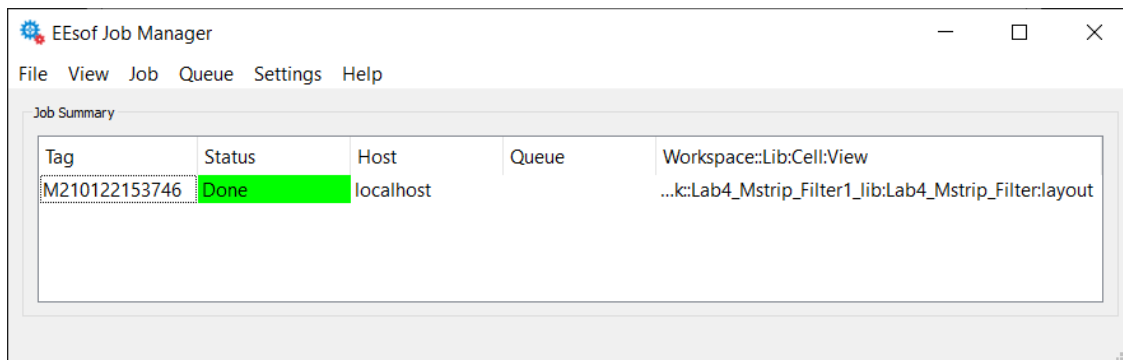
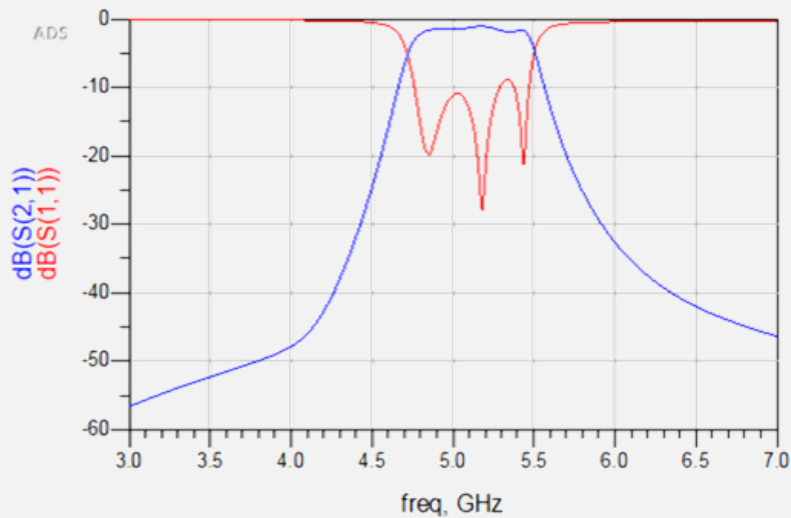

Figure 20. View Jobs in Job Manager
Figure 22. Graph of Momentum Simulation
- a. Job Manager window (Figure 20): Displays simulation job status. Its status turns to “Done” once the simulation is finished. A completed simulation is shown in Figure 22.
11. The Momentum simulation data display will open automatically. Delete all the graphs and insert a new rectangular graph. Select S(1,1) and S(2,1) to be plotted in dB. The simulation results are shown in Figure 22.